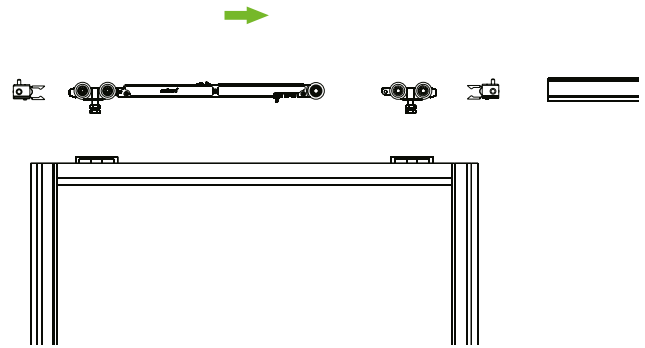

Fig. 3
❸ Install the accessories inside the top rail (Fig. 3) After that, fix the rail on the wall or ceiling. Attach and adjust the door (see instructions for door installation).